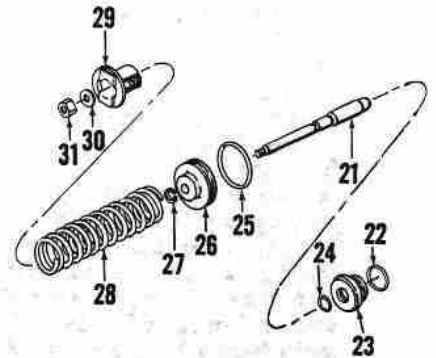

Fig. 270-Exploded view of Servo 2 assembly and piston rod guide.
261. Exploded view of the Servo 2 assembly is shown in Fig. 270 and Servo 3 assembly in Fig. 269. Note that Servo 3 has an inner spring (4) and an outer spring (5). Check servo springs against the following specifications:
To reassemble servos, follow procedure as outlined for Servo 1 in paragraph 259, making sure that sharp edge of snap ring (6—Fig. 269 or 27—Fig. 270) is placed away from piston. Install new sealing "O" rings on pistons and piston rod guides and in guide bores. Lubricate the "O" rings with petroleum jelly and install guides over the piston rods with small diameter of guides away from pistons. Insert the assemblies in their bores. Push against outer end of Servo 3 while slowly backing out the Band 3 adjusting screw; stop turning adjusting screw immediately when servo contacts inner end of bore and stops moving inward. Repeat procedure as outlined to install Servo 2 assembly. **CAUTION:** If either the Band 2 or Band 3 adjusting screw is